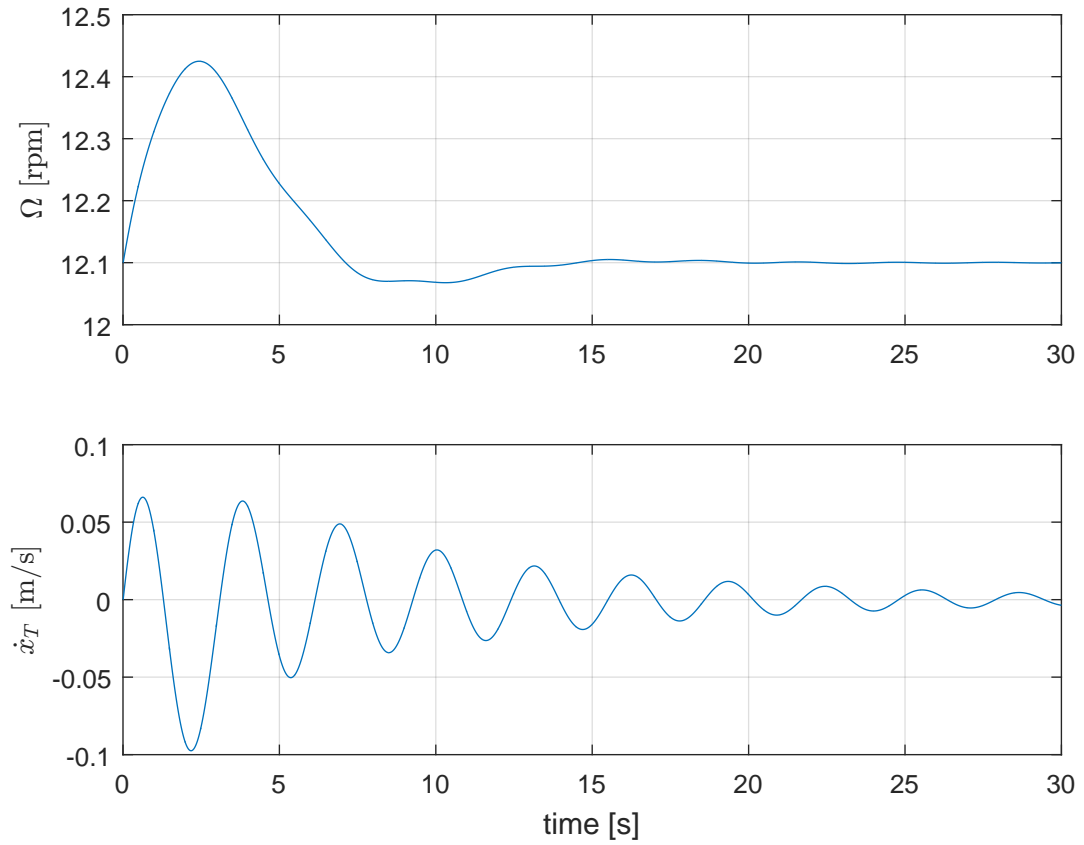

Figure 2: Start of tower damper implementation exercise.
- Test the script Exercise05_TowerDamperTestWindStep.m. You should get a plot like Figure 2. Why is it not exactly the same as in the controller design (CL without TD)?